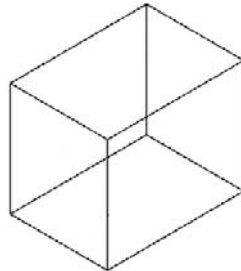

FIGURE 20.7
Step 10. And the final result after a few more lines is seen in Figure 20.7.